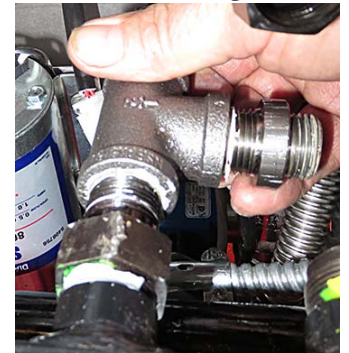
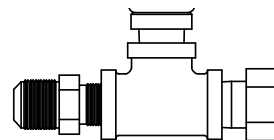

**Figure 45**
**Figure 46**
46. Using Figure 45 below as a guide, route the flexline #1 over the pump and attach to the outlet of the filter pump (see Figure 46).
55. Attach the flexline #2 from the dispose switch assembly in Figure 45, to the dispose outlet assembly (see Figure 56).
80. Attach the #3 flexline (see Figure 45) from the check valve to connector attached to the drain tube in the previous step (see Figure 82).